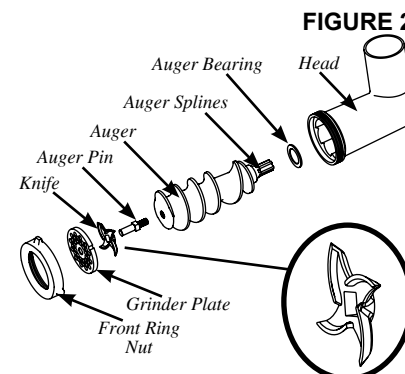

FIGURE 2
3. Insert the **Auger**, with the **Auger Bearing** attached, into the **Head** (Figure 2). Align the **Auger Splines** with the **Drive Shaft** of the **Grinder**.
4. Place the **Knife** onto the square portion of the **Auger Pin** (Figure 2). Be sure the blades of the **Knife** are facing outward.